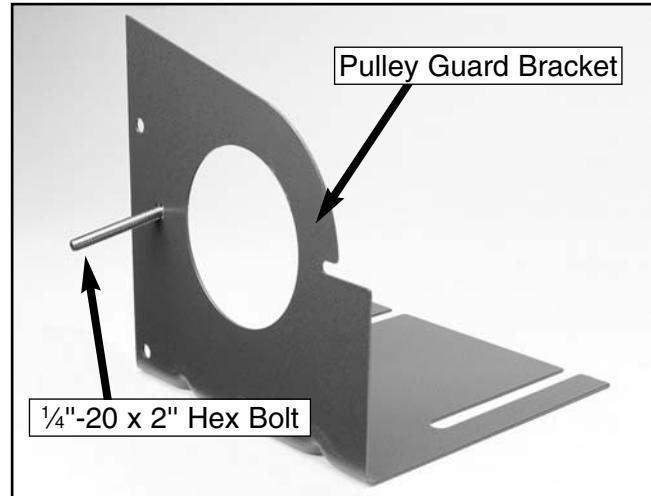

Figure 16. Pulley guard bracket.
2. Insert the $\frac{1}{4}$ "-20 x 2" hex bolt through the hole in the pulley guard bracket as shown in **Figure 16**.